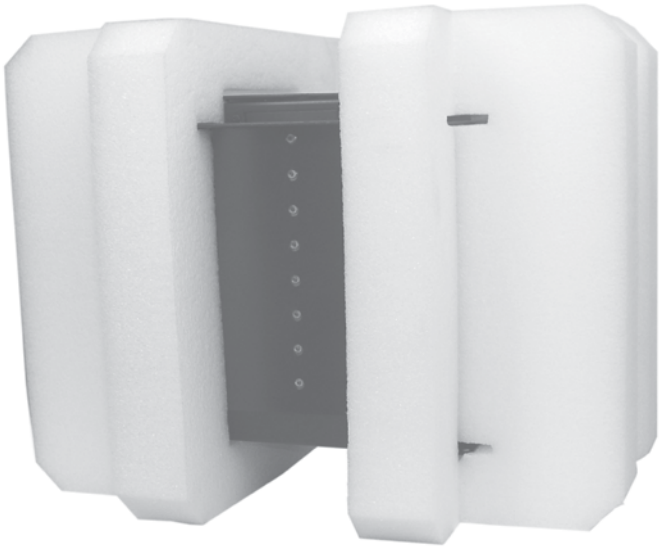

Figure B-10 — HSA suspended in the foam
5. Insert the opposite end of the HSA 822MS into the remaining foam shell (figure B-10). Firmly push the foam shells together as far as they will go to completely suspend the HSA.